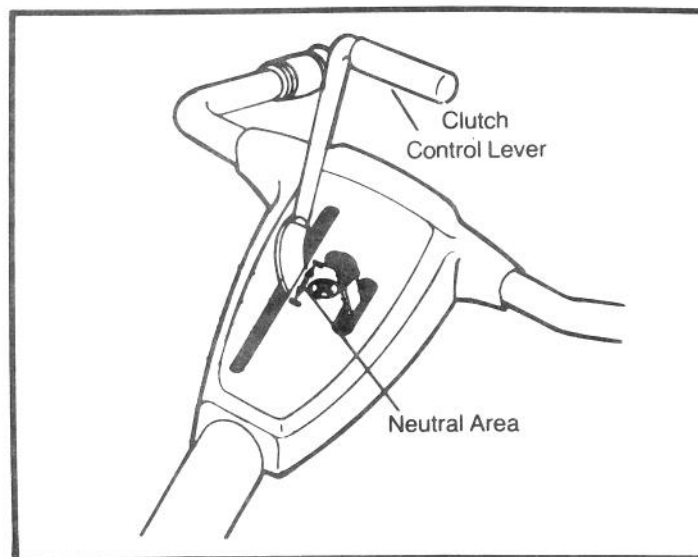

FIGURE 9
3. Move the clutch control lever on the handle bar until centered in the neutral area (Fig. 9).